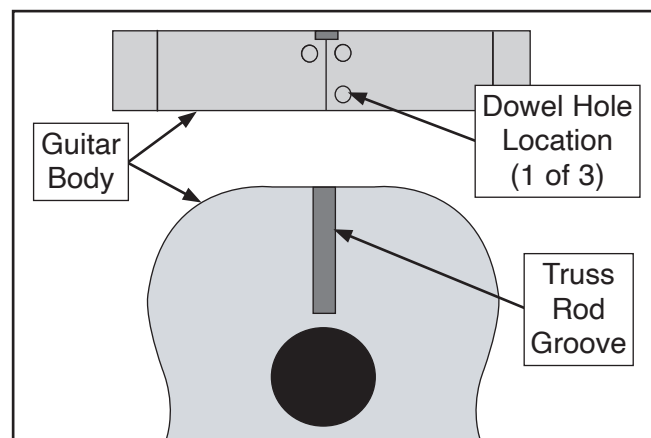

Figure 7. Dowel hole positions.
1. Insert (3) wooden dowels into holes at top of body (see **Figure 7**).
3. Before neck can be glued to body, two critical points must be verified (see **Figure 7**):